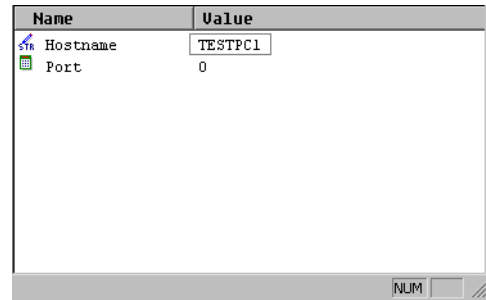

Figure 6-4 Specifying a remote host
8. Select **Edit Value** and enter the hostname of the remote workstation, for example Hostname=TESTPC1, shown in Figure 6-4 on page 6-8.
- c. Expand the Remote group, in the right pane, to display the contents. Edit the Remote settings values page to enter the network address of the remote workstation, for example Hostname=TESTPC1.ournet.tst.com, shown in the example in Figure 6-4 on page 6-8.